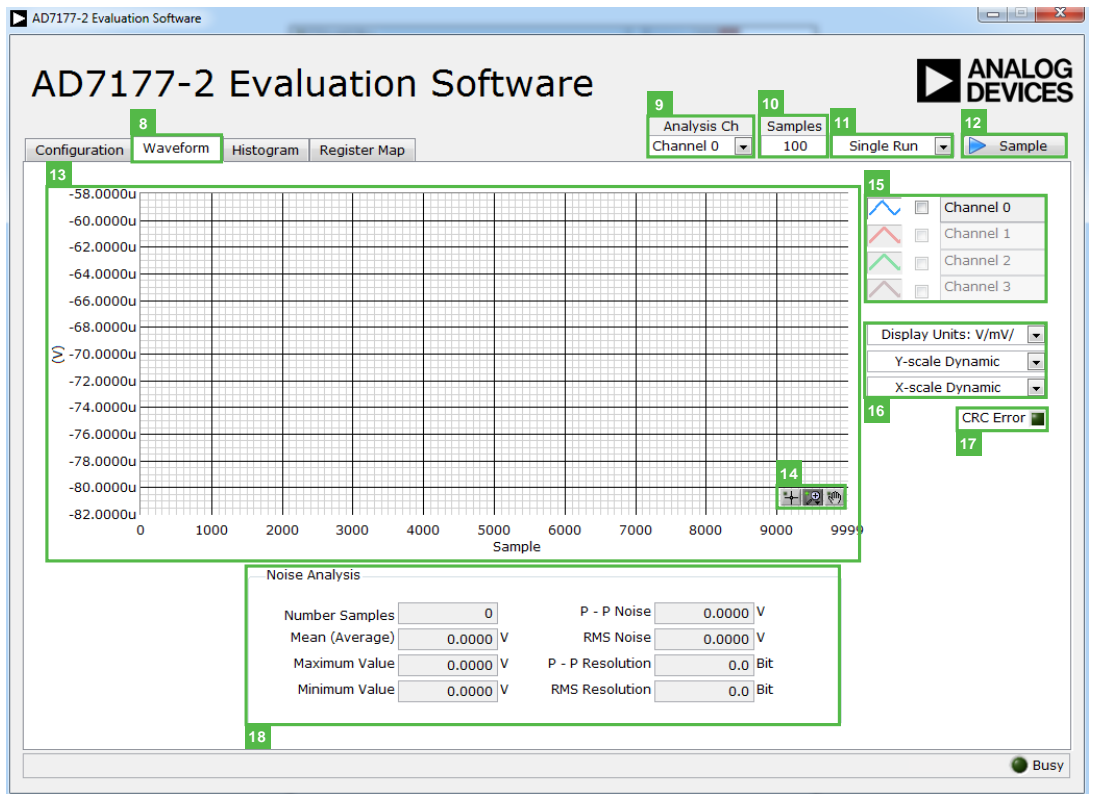

Figure 8. **Waveform** Tab of the AD7177-2 Evaluation Software
The **Noise Analysis** section and Histogram Graph shows the analysis of the channel selected via the **Analysis Ch** (labeled 9 in Figure 8) drop-down combo box.
The **Samples** (labeled 10 in Figure 8) numeric control and batch control (labeled 11 in Figure 8) set the number of samples gathered per batch and whether only a single batch or multiple batches of samples are gathered. The **Samples** (10) numeric control is unrelated to the ADC mode. You can capture a defined sample set or continuously gather batches of samples. In both cases, the number of samples set in the **Samples** (labeled 10 in Figure 8) numeric input dictates the number of samples.
Click the **Sample** button to start gathering ADC results. Results appear in the waveform graph (labeled 13 in Figure 8).
The data waveform graph shows each successive sample of the ADC output. The control toolbar in the graph allows you to zoom in on the data. Click the x-axis and y-axis to change the scales on the graph (see Figure 8).
The channel selection control allows you to choose which channels display on the data waveform. It also shows the analog inputs for that channel labeled next to the on and off controls (see Figure 8). These controls only affect the display of the channels and do not have any effect on the channel settings in the ADC register map.
Click the **Display Units** to select whether the data graph displays in units of voltages or codes (see Figure 8). This selection affects both the waveform graph and the histogram graph. The axis controls can be dynamic or fixed. When **Y-scale Dynamic** and **X-scale Dynamic** are switched on, the axis automatically adjusts to show the entire range of the ADC results after each sample batch. Click the drop-down arrows to select the fixed axis controls, which program the axis ranges to not adjust after each sample batch.
The **CRC Error** LED icon illuminates when a cyclic redundancy check (CRC) error is detected in the communications between the software and the AD7177-2 (see Figure 8). The CRC functionality on the AD7177-2 is disabled by default and must be enabled for this indicator to work.
The **Noise Analysis** section displays the results of the noise analysis for the selected analysis channel (see Figure 8). This section includes both noise and resolution measurements.